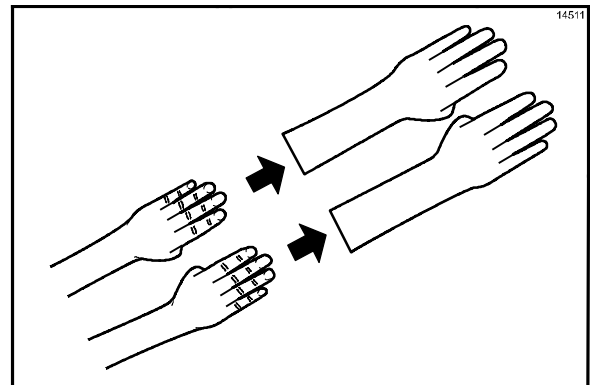

Figure 78
6. Put on heat-resistant gloves. (See Figure 78.)